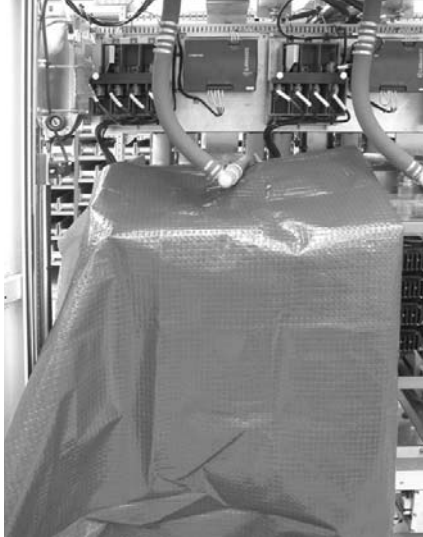

Figure 7-3 Protecting Cover
- 4 Before disconnecting the top water hose, cover the equipment below a coupling with a plastic sheet (see *Figure 7-3*) or hold a towel or cloth underneath the coupling to prevent water from getting inside the phase module or the measuring board below.
- 5 Cover the equipment below a coupling by a plastic sheet (see Figure 7-3) or hold a towel or cloth underneath the coupling before connecting the water hoses.